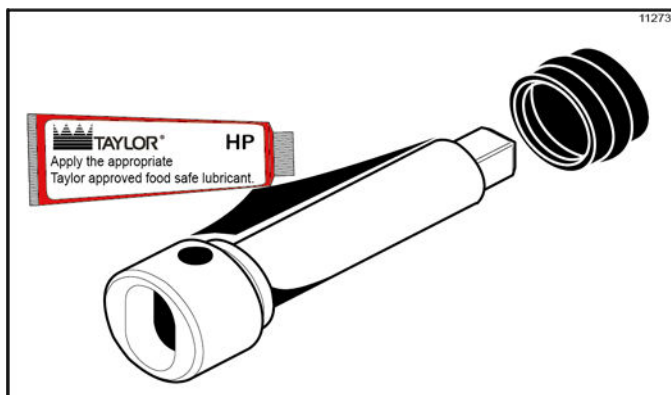

Figure 6-1
1. Lubricate the groove on the shake beater driveshaft before installing. Slide the beater driveshaft boot seal over the small end of the beater driveshaft and engage it into the groove on the shaft. Heavily lubricate the inside portion of the boot seal and also lubricate the flat end of the boot seal that comes in contact with the rear shell bearing. Apply an even coat of lubricant to the shaft. **Do not** lubricate the square end. (See Figure 6-1.)